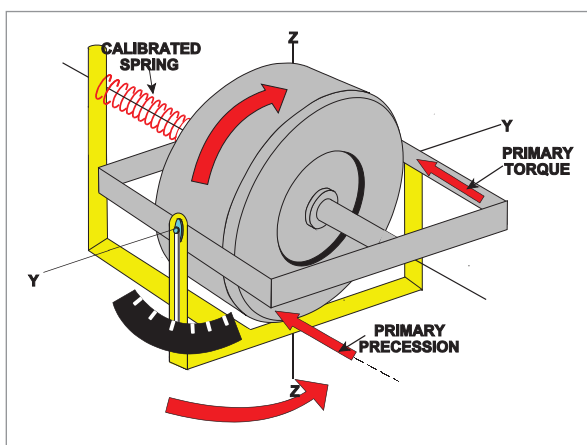
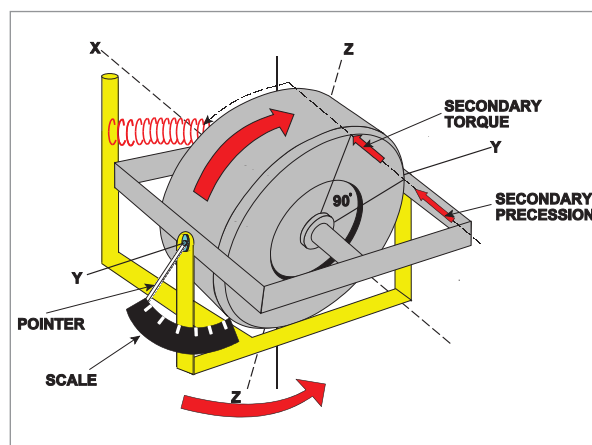

Figure 14.1
Figure 14.2
The turn indicator is based on a horizontal-axis rate gyro, which has only one gimbal and therefore only one degree of freedom. If the aircraft banks (without turning) the gyro axis has the freedom to remain horizontal. However, if the aircraft yaws, the frame, fixed to the airframe, applies a force (labelled primary torque in *Figure 14.1*), in a direction where the gyro is not gimbaled, and therefore has no freedom. This results in a precession which will cause the gyro to depart from the horizontal. A spring system prevents the gyro from turning all the way to the vertical, and the amount of spring stretch is a measure of the rate of turn.
*Figure 14.1* and *Figure 14.2* illustrate the principal of operation. If the aircraft turns, the rotor is subjected to a primary torque acting about the ZZ axis. This produces a primary precession about the YY axis, the direction of this precession being as if the applied force were moved 90° in the direction of rotor spin. As the rotor tilts about the YY axis it causes a spring between gimbal and frame to be extended. The resultant spring tension subjects the rotor to a secondary torque acting about the YY axis. This secondary torque, with the precession, will continue until the gimbal has tilted just the right amount to give the spring tension required to generate a rate of secondary precession equal to the rate of turn of the aircraft. This gives equilibrium. It should be emphasized that the chain of events is virtually instantaneous - as the aircraft goes into a turn, the gimbal takes up the appropriate angle of tilt.